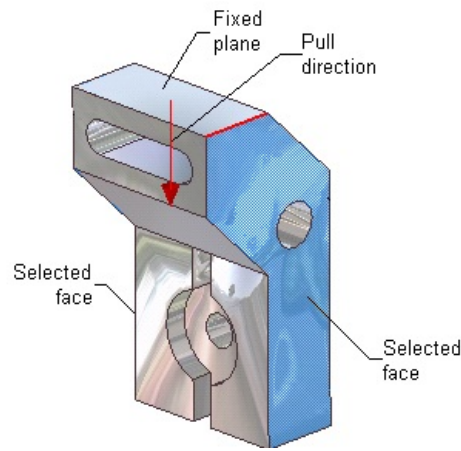

Figure 8-163 Final model for Tutorial 4
6. Add a fillet of radius 2 mm to the edges on the bottom face of the model. The final model for Tutorial 4 is shown in Figure 8-163.